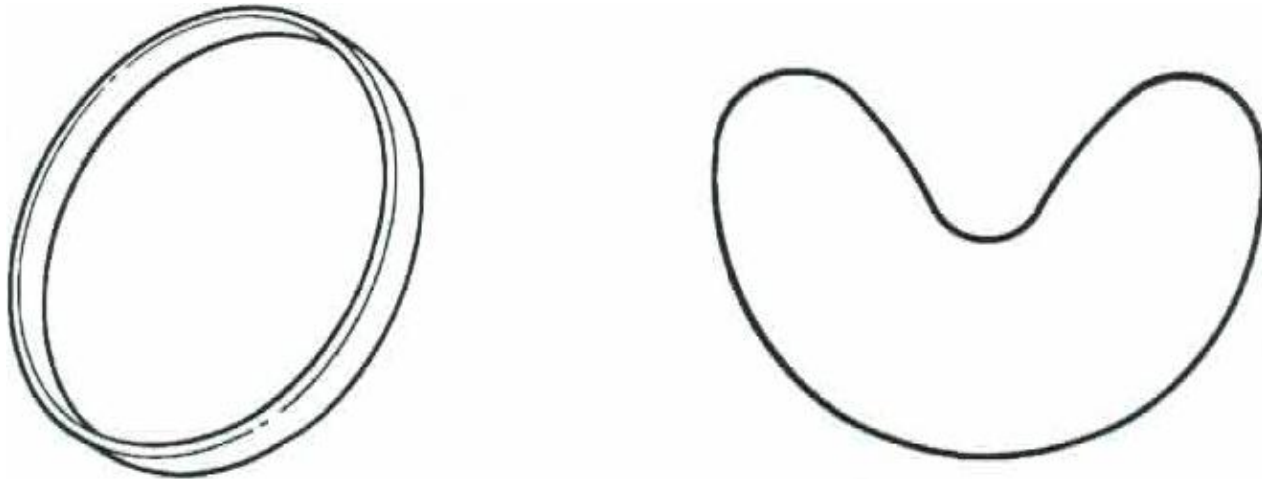

Figure 4.1 PTFE Seal Installation
- a. Carefully distant the PTFE outer part, as shown in Figure 4.1 and position it over the O-ring. Check condition of PTFE/O-ring seal (62), if damaged; discard. Apply a light coat of paraffin wax onto new PTEF/O-ring seal (62) and install into the fuel chamber insert (67).
- b. Install washer (61) and retaining ring (60) into the fuel chamber insert (67).
- c. Install new main seal (65) on to the OD of the fuel chamber insert (67).
- d. Install new O-ring (66) into the grove of the fuel chamber insert (67).
- e. Make sure the piston sealing edge and ground outer diameter of the piston are in good condition. Apply a light coat of paraffin wax along the entire surface of the shaft of the piston (64). Carefully insert the piston (64) thru the center of the fuel chamber insert (67) to prevent cutting into the PTFE/O-ring seal (62).
- f. Install the washer (59) onto the shaft of the piston (64).
- g. Install spring (58) and main spring (57) into the fuel chamber insert (67).